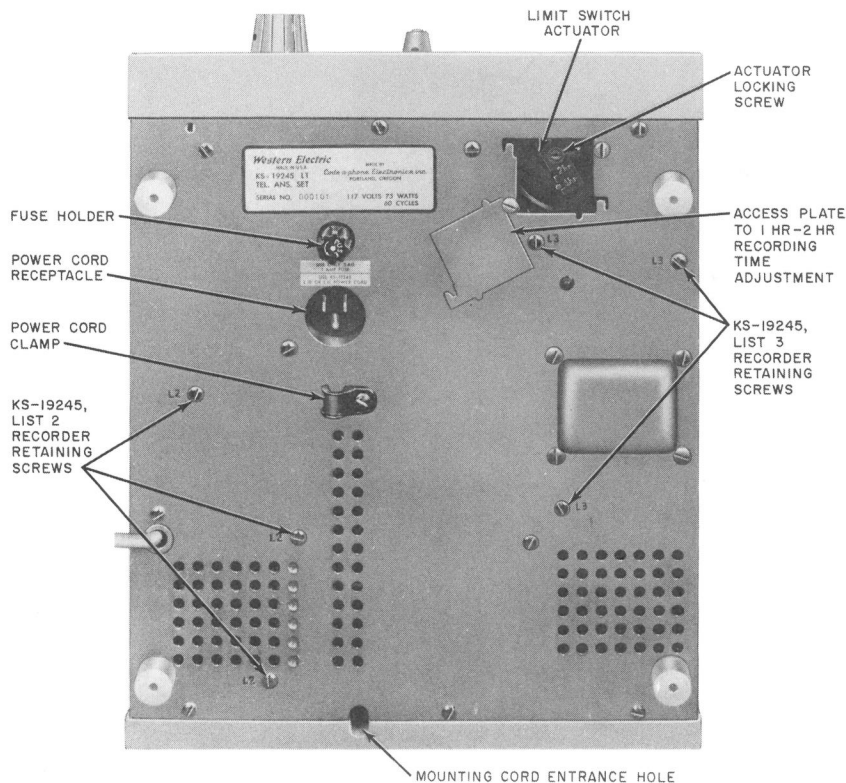
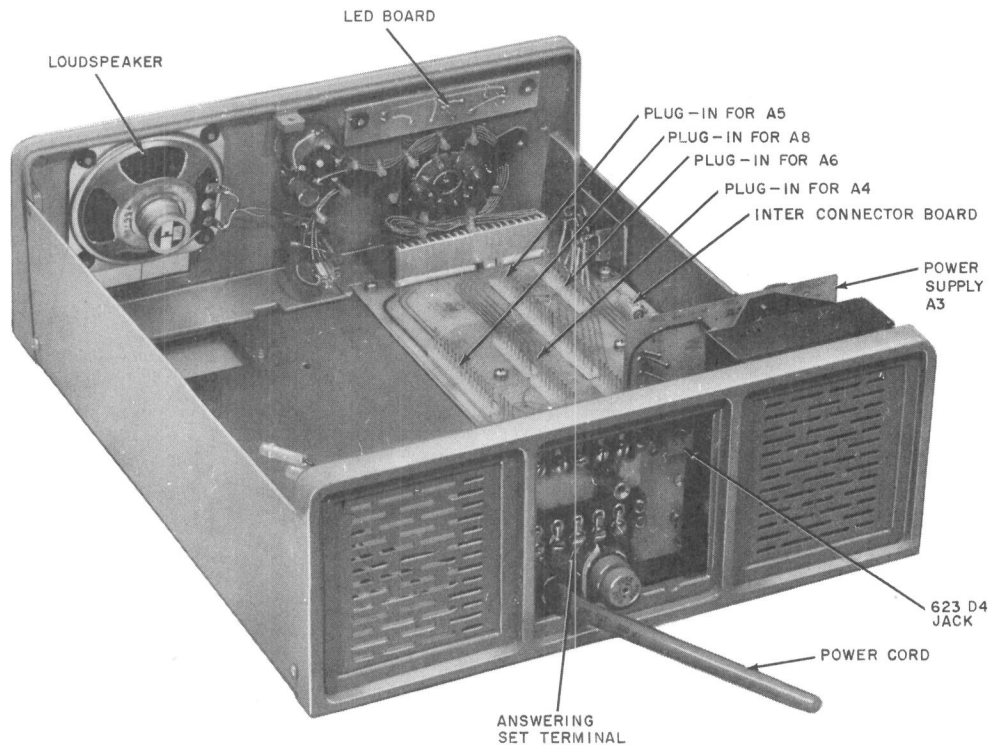
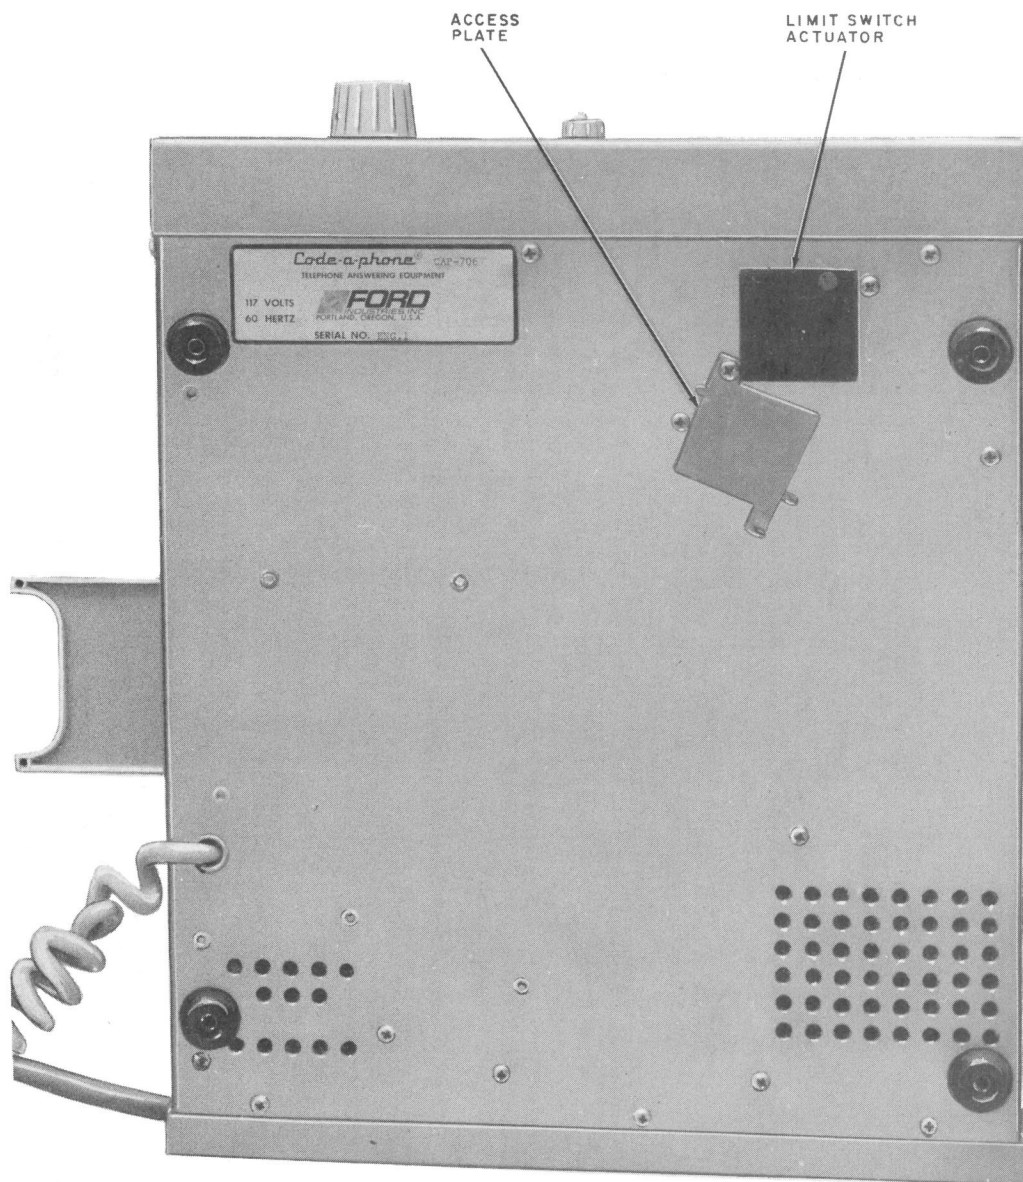
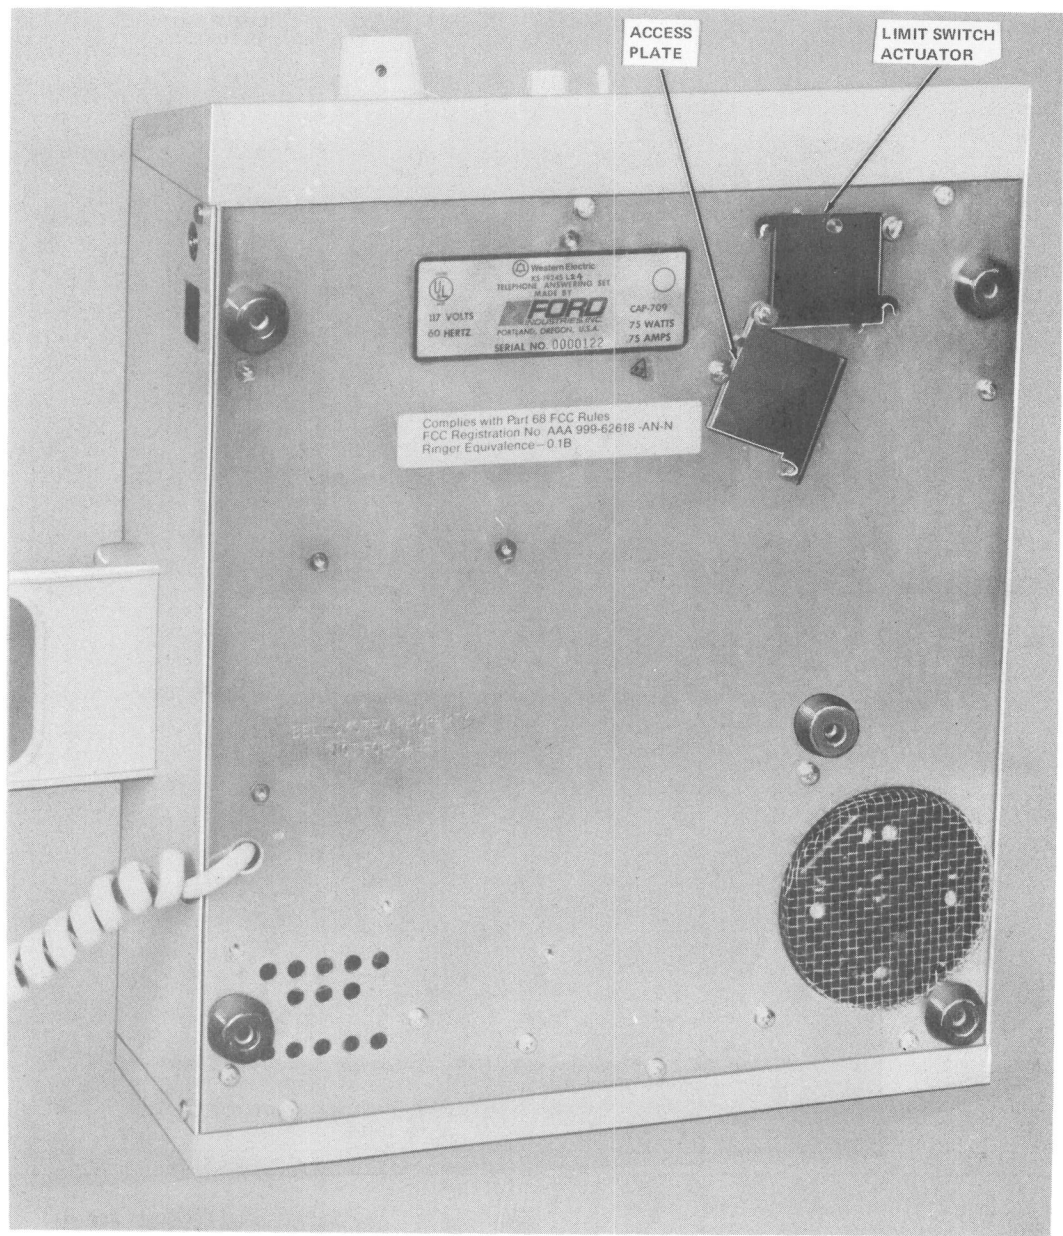

Fig. 20—KS-19245, List 1 (MD) Telephone Set—Bottom View
Fig. 21—KS-19245, List 13 (MD) or List 24 Telephone Set—Cover and Components Removed
Fig. 22—KS-19245, List 13 (MD) Telephone Answering Set—Bottom View
Fig. 23—KS-19245, List 24 Telephone Answering Set—Bottom View
5.05 Message Recording Capacity Option: Adjust message recording capacity (List 1, Fig. 20; List 13, Fig. 22; List 24, Fig. 23).
- (3) Remove access plate.
- (4) Adjust limit switch actuator (List 1 set only, Fig. 20).
- (5) Adjust limit switch actuator (List 13 set, Fig. 22; List 24 set, Fig. 23) by sliding actuator to 2hr position. A detent will lock actuator in position (Fig. 22).
- (6) Replace access plate.
- (d) A List 11 power cord (shipped loose) connects to receptacle on List 1 set only (Fig. 20). Lists 13 and 24 set power cord is wired to set (Fig. 21).
- (a) For List 1 only, insert suitable mounting cord through hole provided in base of answering set (Fig. 20) and make connections for type of service required as shown in Table A.